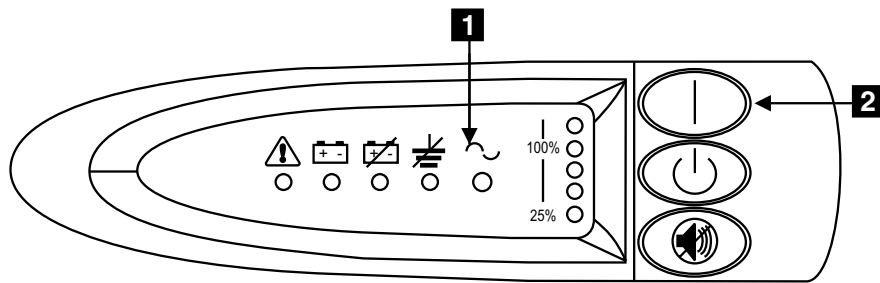

Figure 110. Power switch and indicators of the uninterruptible power supply
13. All the front panel indicators of the uninterruptible power supply flash for a short time while the uninterruptible power supply runs a self test. When the test is complete, the mode indicator **1** flashes to show that the uninterruptible power supply is in standby mode. See Figure 110.